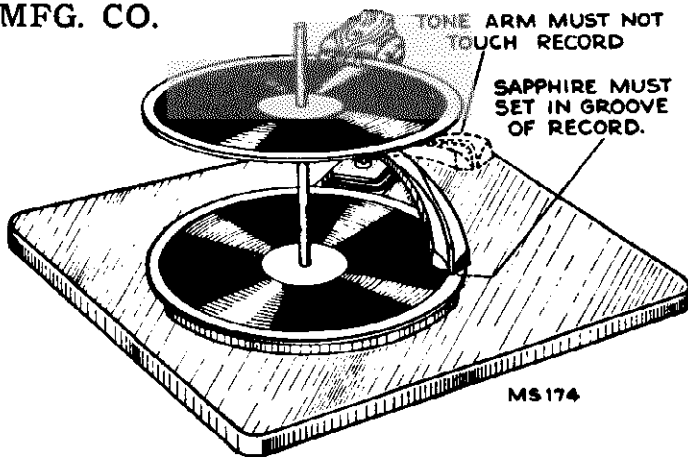
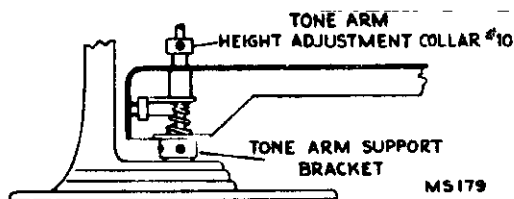

FIG. 5
FIG. 9
71193	Support—Main cam support (fig. 9)
The tone arm height should be so adjusted as to permit the sapphire to engage and ride in the grooves of one record placed on the turntable, but at the same time prevent the tone arm from touching the records on the supports while the mechanism is going through cycle, fig. 5.
2. With the pickup near the edge of the record, loosen the set screw (with Bristo Wrench #6), holding collar 10, fig. 9, and moving it up or down on shaft 42A, so as to have the conditions indicated in sketch, fig. 5.